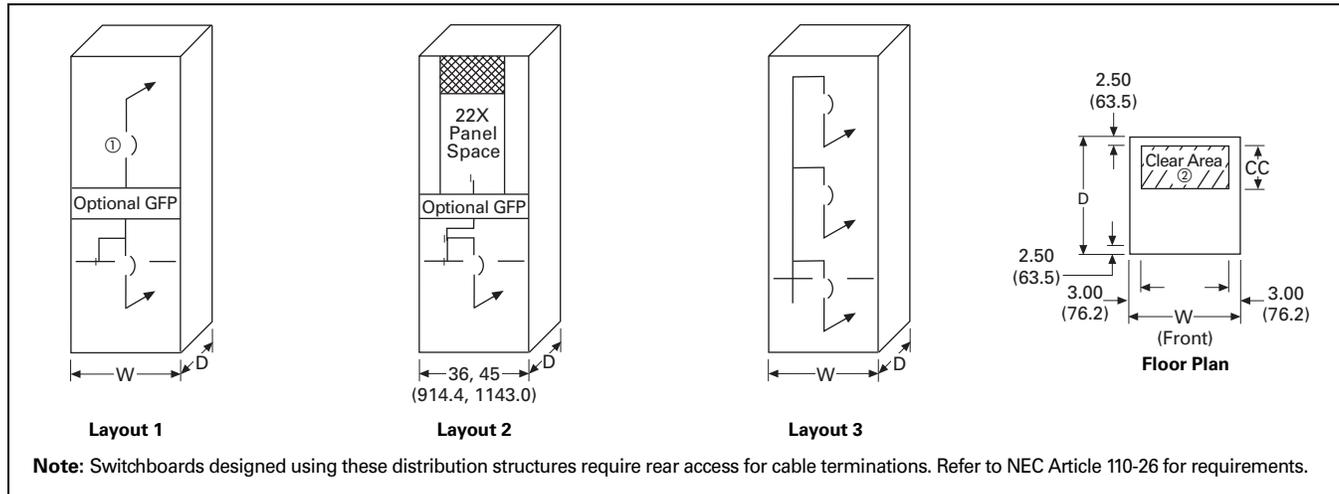

Figure 21.2-7. Individually Mounted Feeder Layouts—Dimensions in Inches (mm)
- ① When using top-mounted (bottom feed) inverted bolted switches, verify acceptance with code authorities.
- ② For **Layout 2**, width will be 36.00 or 45.00 inches (914.4 or 1143.0 mm) depending on size of panel mounting devices. Refer to **Page 21.2-12**.
Table 21.2-6. Stacked Distribution Structure Sizes for Figure 21.2-7 Layouts 1 and 2—Dimensions in Inches (mm) ③
Table 21.2-7. Stacked Distribution Structure Sizes for Figure 21.2-7 Layout 3 Only—Dimensions in Inches (mm)
Table 21.2-8. Stacked Distribution Structure Sizes for Figure 21.2-7 Layouts 1 and 2—Dimensions in Inches (mm) ③
Table 21.2-9. Stacked Distribution Structure Sizes for Figure 21.2-7 Layout 3 Only—Dimensions in Inches (mm)